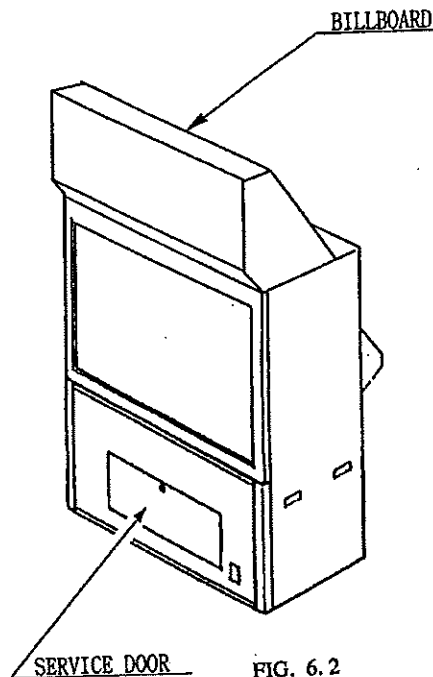
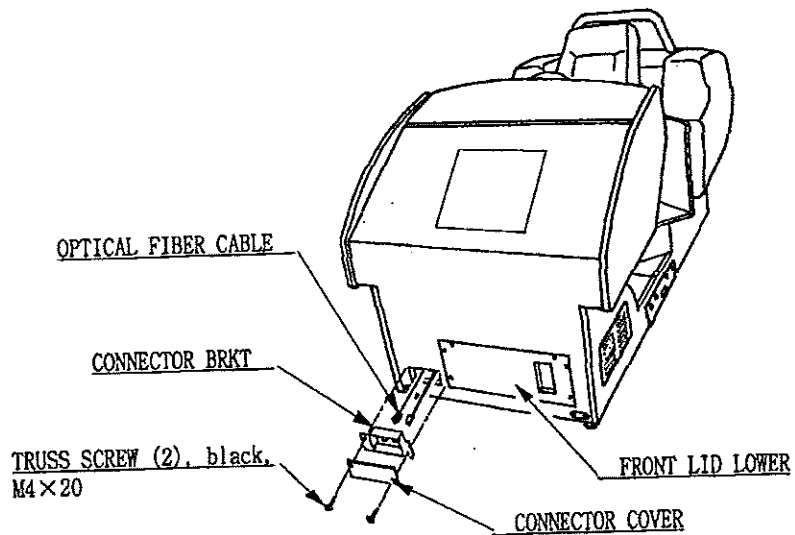
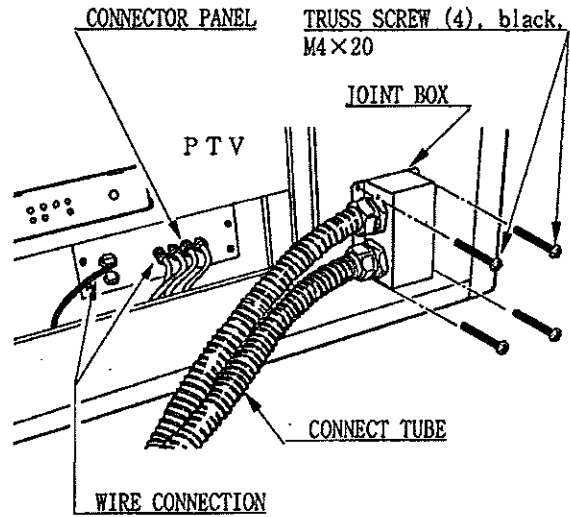

FIG. 6.2
FIG. 6.7
FIG. 6.8
- ⑪ Insert the optical fiber into the bracket's connector (red one into TX side, black one RX side). Secure the bracket together with the connector cover by using 2 screws (FIG. 6.7)
- ① Remove the PTV's SERVICE DOOR and front door's FRONT LID LOWER (FIG. 6.2 and FIG. 6.7).
- ② Put the CONNECT TUBE's wiring connectors in the square hole beside the front door and secure the JOINT BOX with 4 truss screws by paying careful attention that the connectors are not damaged.
- ③ Connect the CONNECT TUBE's wiring connectors to the connector panel inside the PTV. At this time, make sure that the wire color (red, green, blue and the remaining color) corresponds with the applicable symbol of the connector panel's display (R. G. B. and SYNC terminals), (FIG. 6.8)